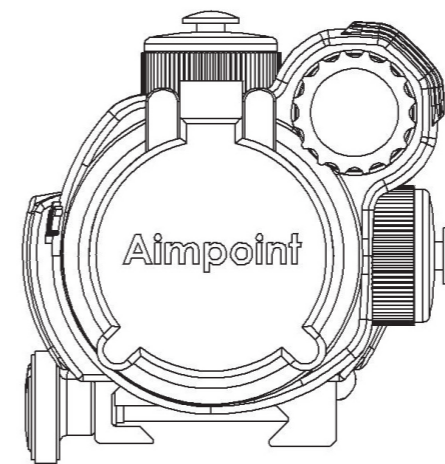

fig. 3: Seen from rear
- Ensure that the sight is correctly positioned in the ring (fig. 3).